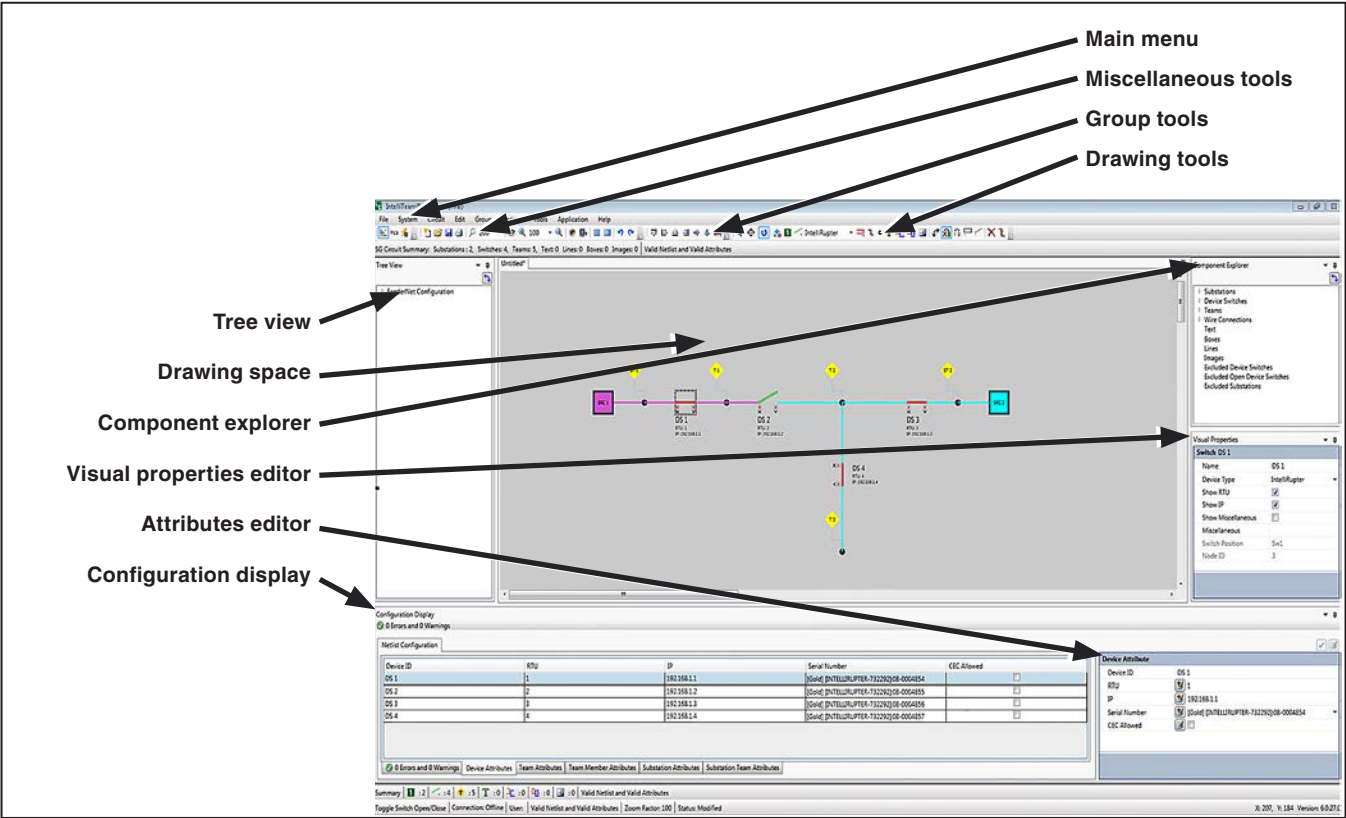

Figure 11. Workspace option locations.
- STEP 2.** Place the sources. See Figure 11 on page 22.